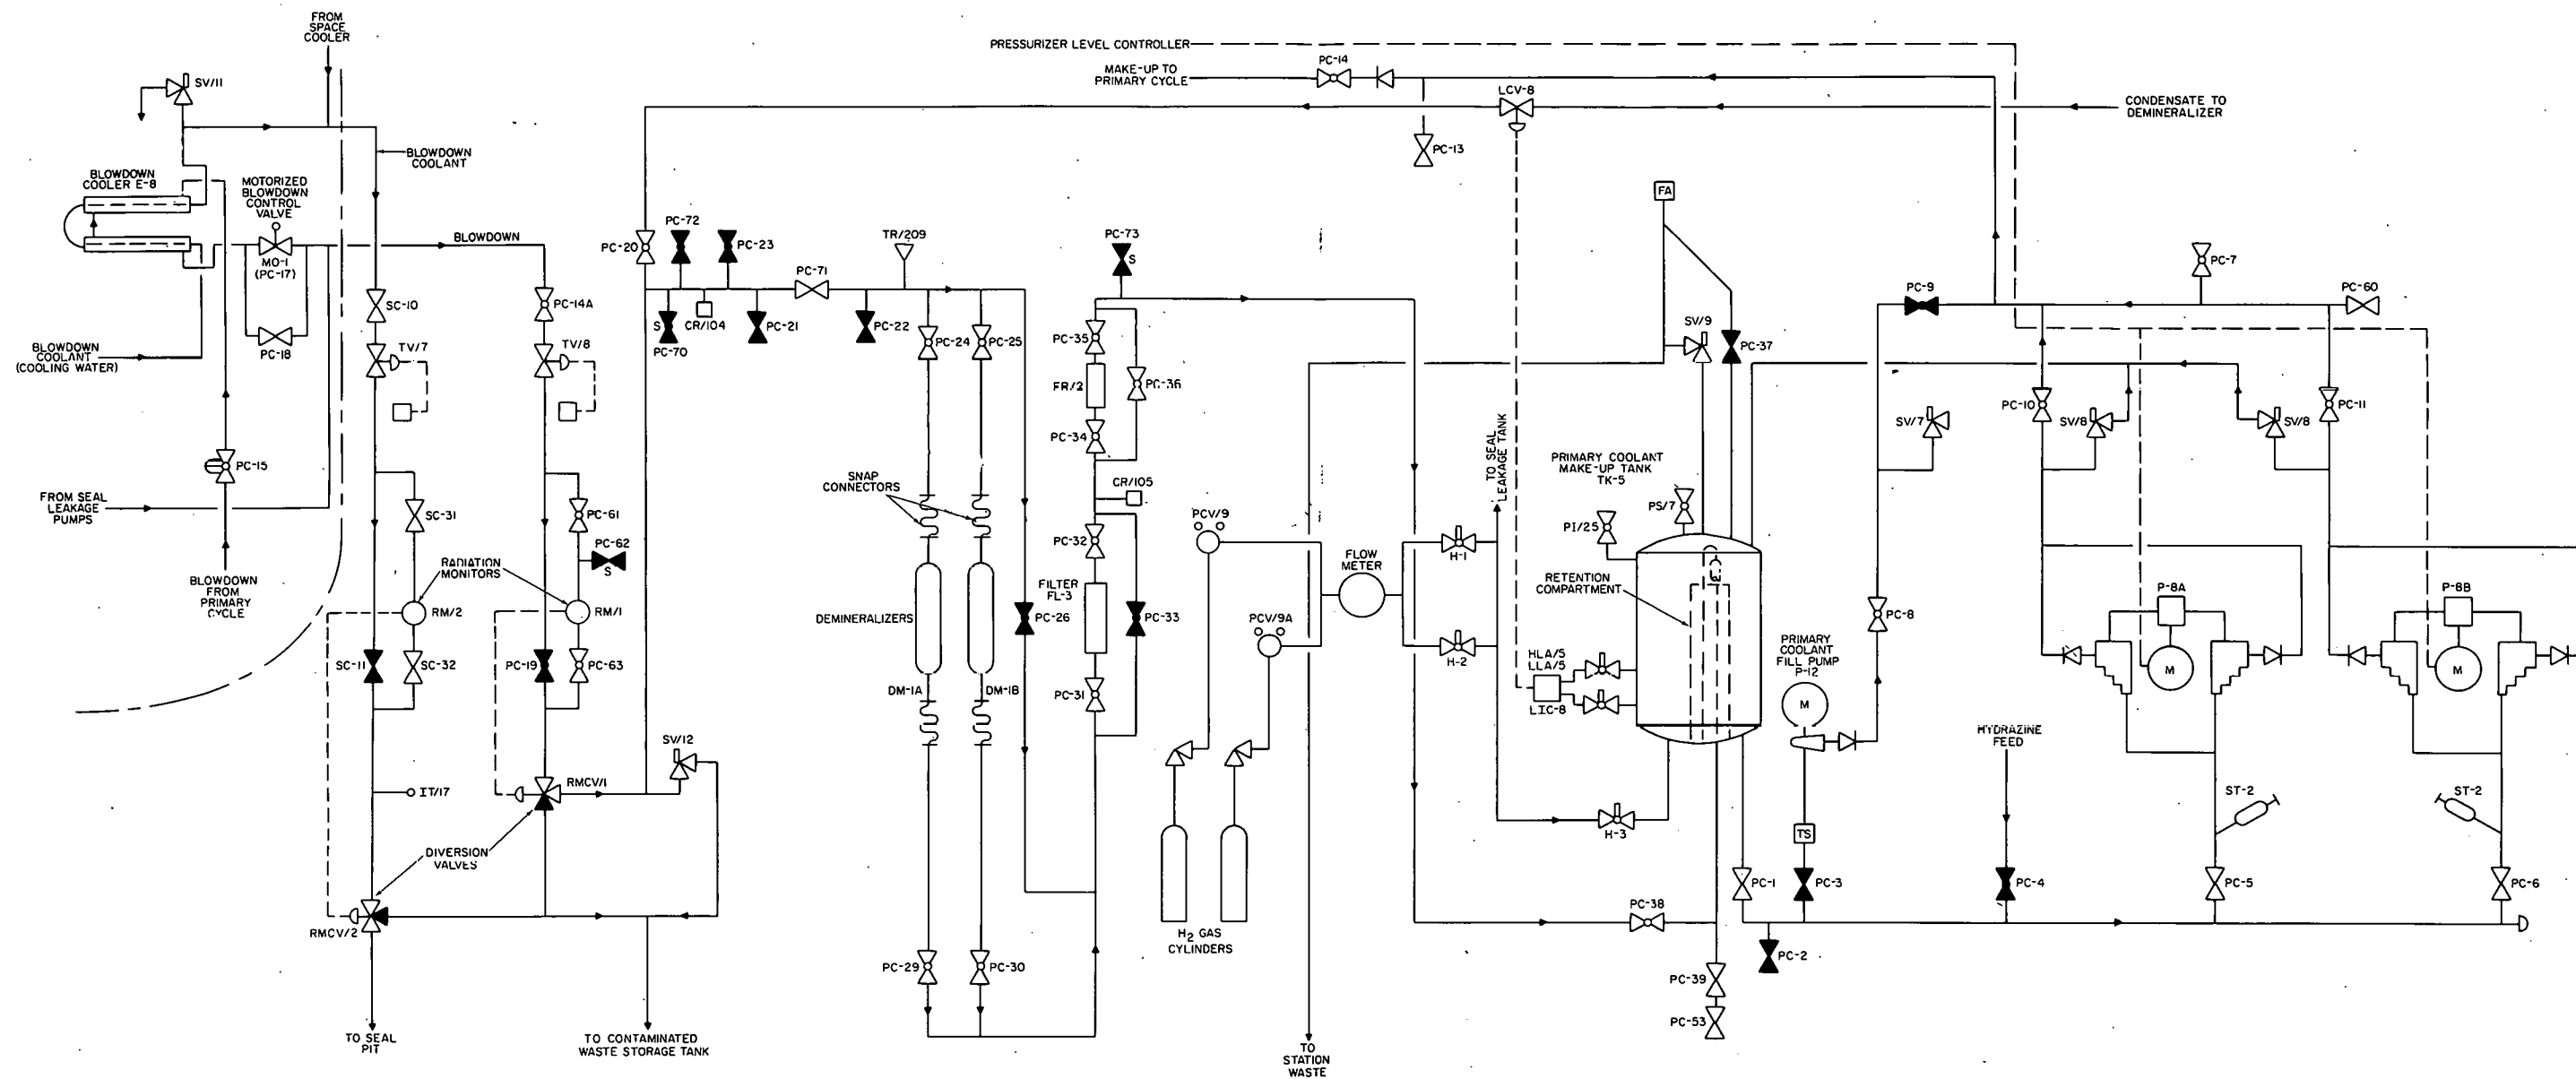

Figure 2-11. Primary Blowdown and Make-Up System, Schematic Flow Diagram
Description (Figure 2-11). The primary coolant blowdown system is comprised of a blowdown cooler, motor-operated blowdown control valve, two pneumatic diversion valves, radiation monitors, and various indicators, recorders, etc. The function of the blowdown system is to continuously bleed off primary coolant, reduce its temperature and pressure, and direct its flow through a demineralizer to maintain the concentration of corrosion products in the primary loop below 2 ppm total solids.
Description (Figure 2-11). Coolant is blown down from the primary system to remove impurities from the system. Before recirculation to the primary make-up system, the water is passed through a demineralizer to lower its impurity content. The demineralizer is a cartridge-type, single-column, mixed-bed unit. It lowers the solids content of the blowdown from 2 to 0.5 ppm.
Description (Figure 2-11). The primary coolant make-up system is comprised of two adjustable volume, variable speed, positive displacement make-up pumps and a 5000-gallon-capacity make-up tank which function to make up primary coolant losses. The system also incorporates a bottled hydrogen supply for inhibiting corrosion and a fill pump for initially filling the primary system.
1. Position valves as shown in figure 2-11, but close valve H-1 or H-2 so that only one gas cylinder is in use.